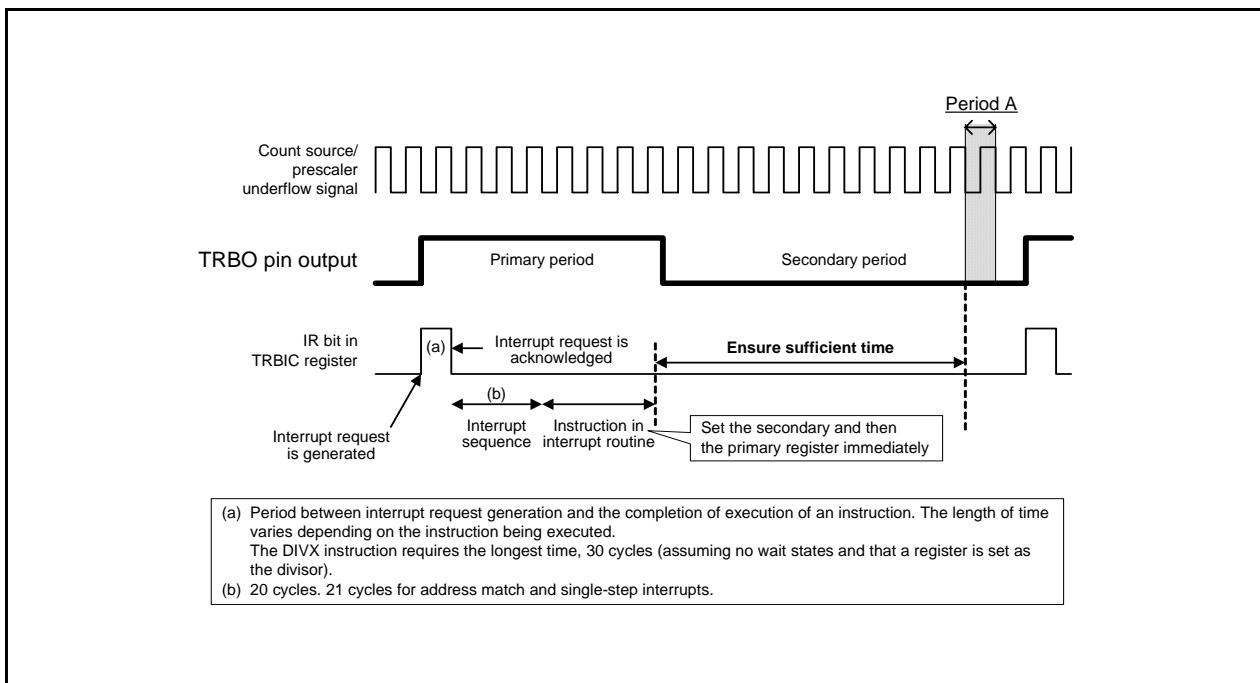

Figure 14.24 Workaround Example (a) When Timer RB interrupt is Used
- (1) To write to registers TRBPREG and TRBPR during count operation (TCSTF bit is set to 1), note the following points:
- (2) To change registers TRBPREG and TRBPR during count operation (TCSTF bit is set to 1), synchronize the TRBO output cycle using a timer RB interrupt, etc. This operation should be performed only once in the same output cycle. Also, make sure that writing to the TRBPR register does not occur during period A shown in Figures 14.24 and 14.25.
As shown in Figure 14.24, write to registers TRBSC and TRBPR in the timer RB interrupt routine. These write operations must be completed by the beginning of period A.